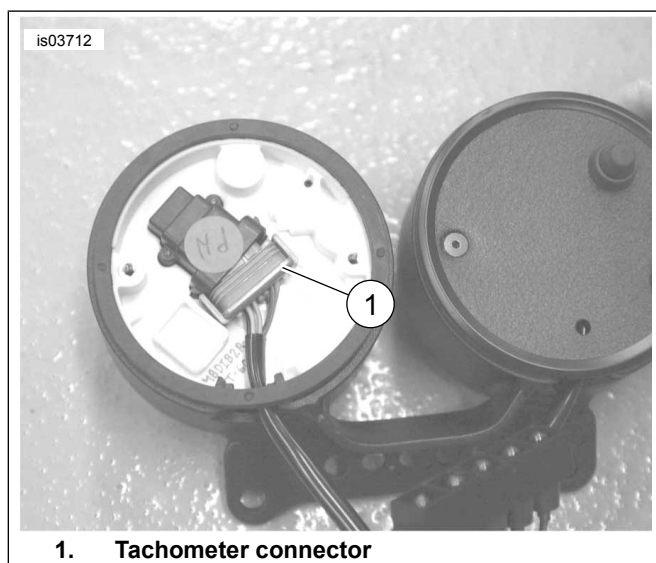
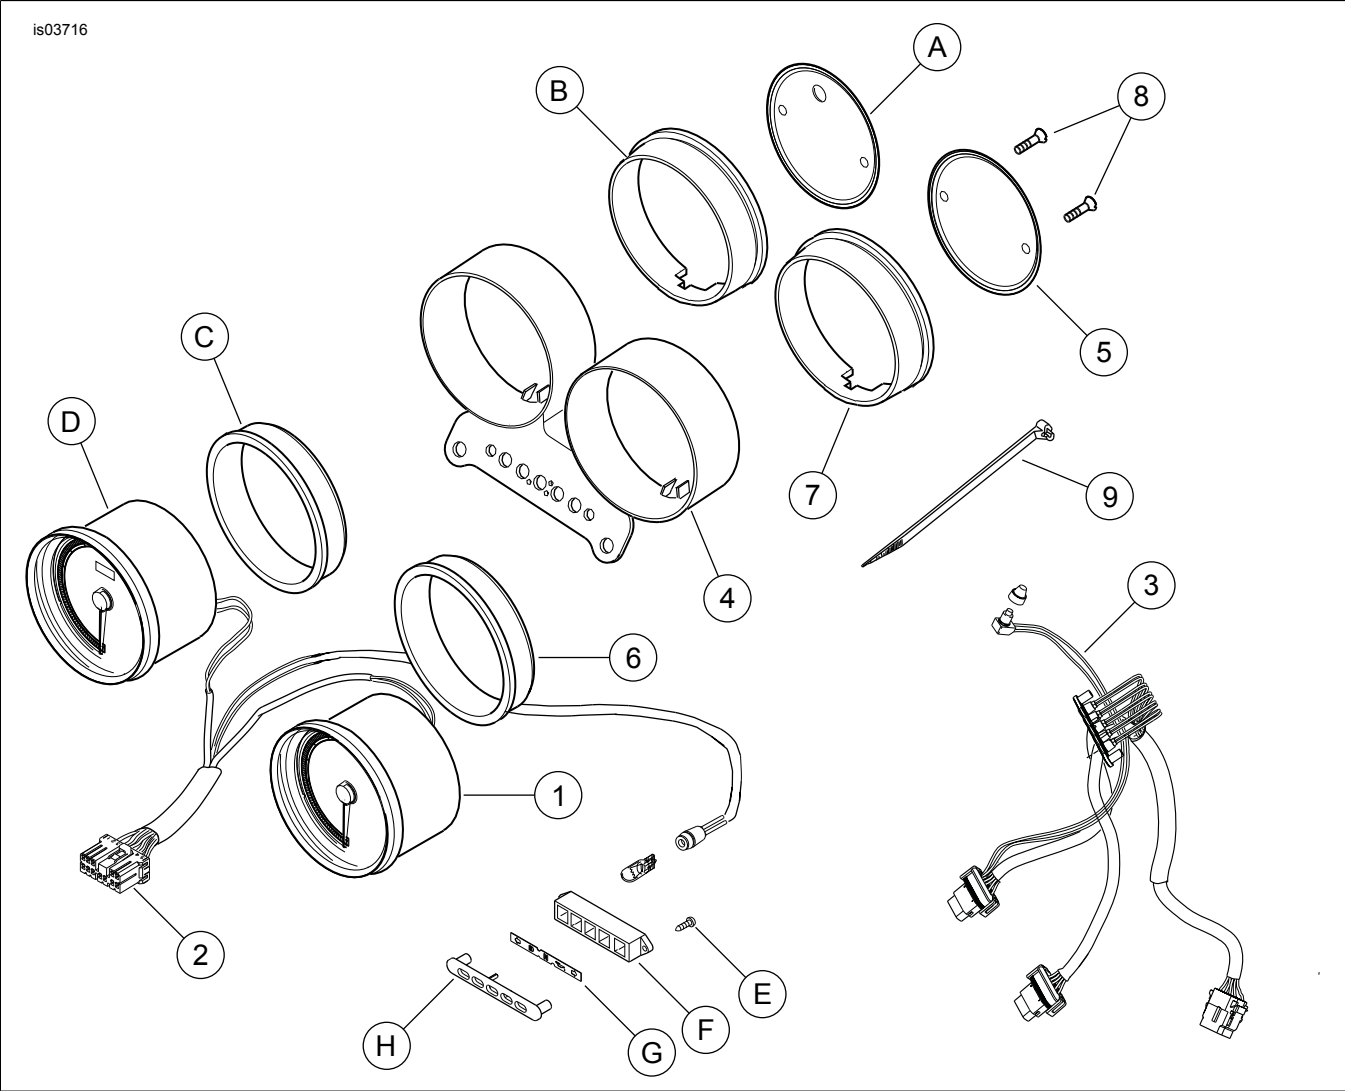

Figure 6. Assemble Tachometer
Figure 9. Service Parts: XL Tachometer Kit
See Figure 9 and Table 1.
8. See Figure 9. Note location of all indicator light components mounted in speedometer bracket. Each indicator lamp has the lamp's function printed on one of the lamps leads. Remove the two screws that secure the indicator light components to the speedometer bracket. Retain screws and indicator light components for installation on speedometer/tachometer bracket later.
16. See Figure 9. Obtain the tachometer (1), front and rear gaskets, rear cover (5) and cover screws (8) from kit.
17. Lubricate the front tachometer gasket with isopropyl alcohol or glass cleaner and install to front of tachometer. Insert tachometer through front of right opening in double bracket (4).
18. See Figure 6. Lubricate the rear tachometer gasket. Locate the tachometer connector (1) on the harness. Place rear gasket in position and align gasket tabs. Insert tachometer wiring and connector between gasket and tachometer making sure wiring rests in wire guide. Connect the tachometer connector. Work the rear gasket into space between tachometer and bracket by pushing tachometer against one side of bracket while pushing gasket into position at the opposite side.
20. See Figure 9. Place the indicator light bezel (H) and color strip on front of dual bracket (4). Make certain color strip stays in position on locating pins.